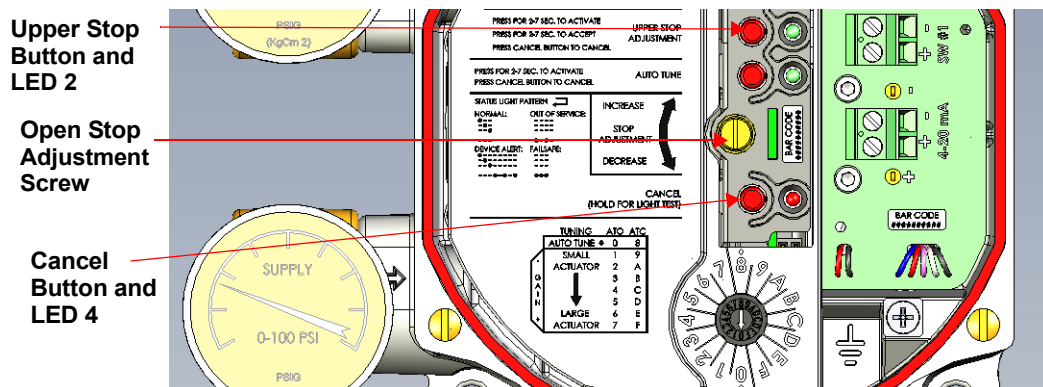

Figure 20 Open Stop Adjustment Screw
2. Move the valve to the desired location via the *Open Stop Adjustment Screw* (Figure 20).